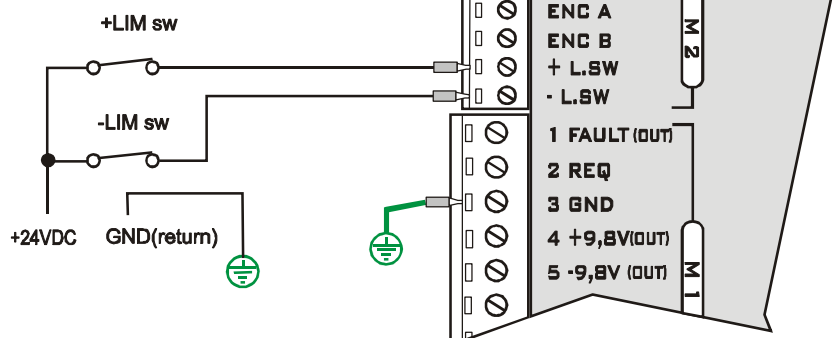

Fig. 2
- Then connect on said input a positive voltage (between +5Vdc and + 24Vdc) coming from -for example two N.C. contacts (see figure 2 or 3)